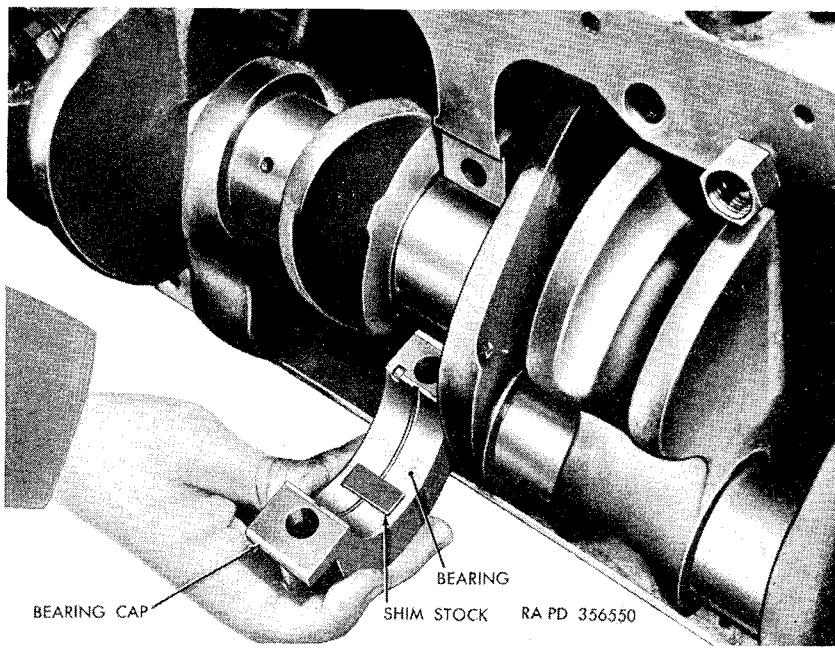

Figure 56. Checking main bearing clearance.
e. *Checking Main Bearing Clearance* (fig. 56). Refer to repair and rebuild standards (par. 63) for desired main bearing clearance